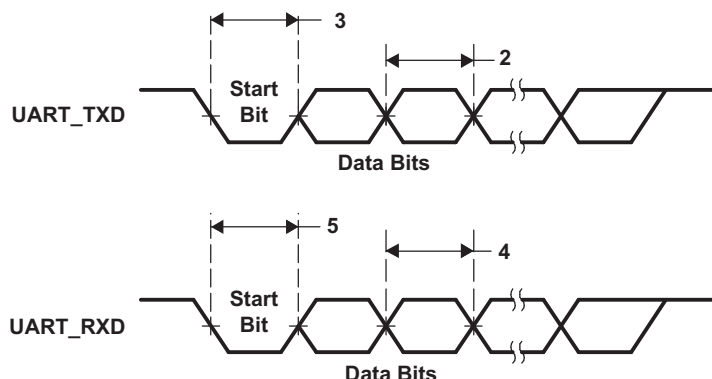

Figure 6-22. UART Transmit/Receive Timing
Table 6-20. Timing Requirements for UART Receive(1)(2) (see Figure 6-22)
- (1) U = UART baud time = 1/programmed baud rate.
- (2) These parametric values are measured at DVDDIO = 3.3 V, 2.75 V, and 2.5 V
Table 6-21. Switching Characteristics Over Recommended Operating Conditions for UART Transmit(1) (2) (see Figure 6-22)